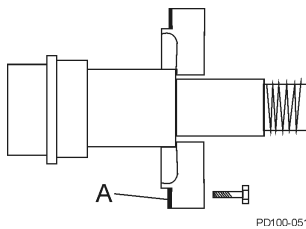

Figure 39 - Remove Sealant from Retainer
4. Scrape the silicone sealant (Figure 39, item A) from the bearing retainer and gear case.